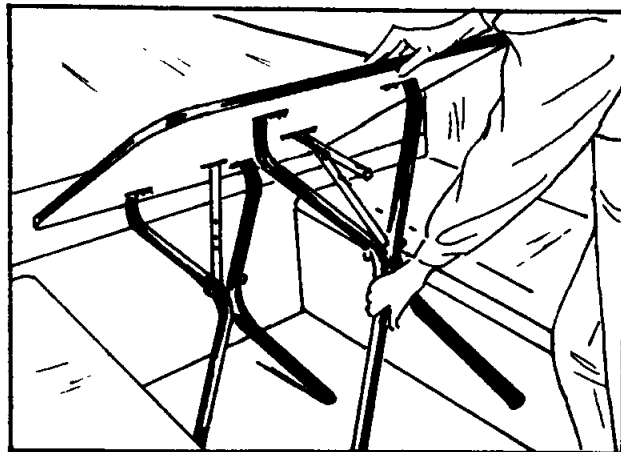

FIGURE 35
41. Extend the table legs completely so that both leg supports lock into position. Set table upright and check to insure it is stable. (See Figure 35.)
12. Lift the dinette table up on end. Apply pressure to the leg support locks and lower and secure legs by attaching the elastic cord over both dinette legs. See Figure 35.